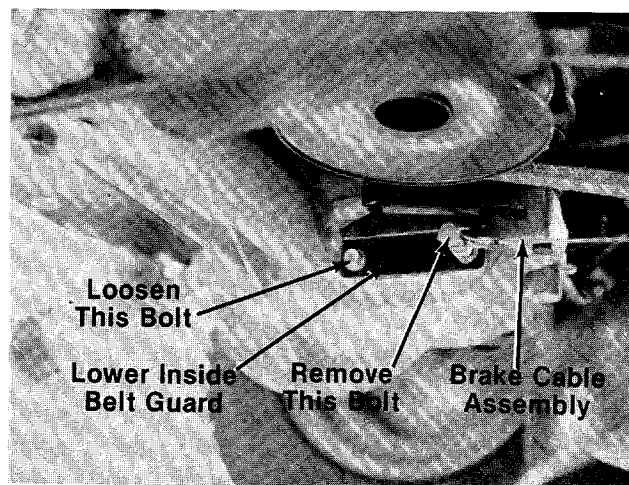

FIGURE 23.
7. Remove the hex bolt at the lower inside belt guard (at transaxle) which holds the brake cable assembly. See figure 23. A 3/8" wrench is required.
8. Loosen the second bolt (**do not remove**), then pivot the guard upward, and slip the deck belt off the engine pulley. See figures 23 and 24.